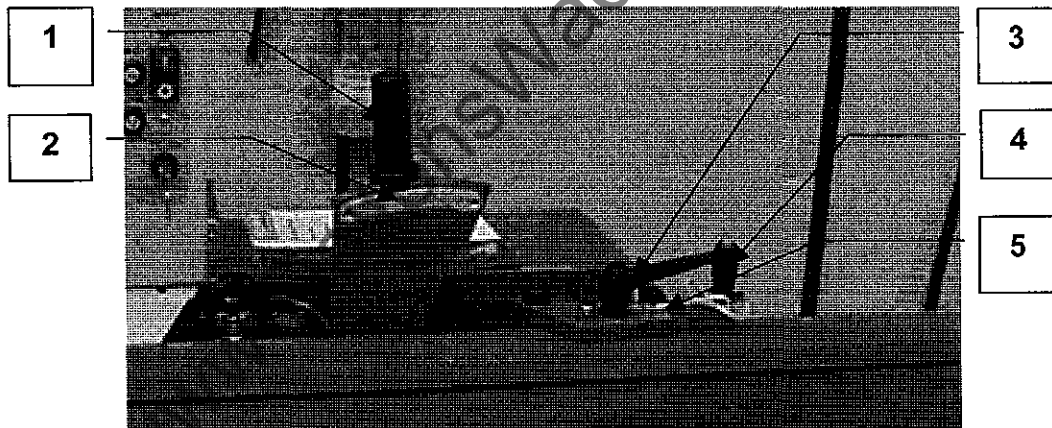

Figure 5.9
5.9 Infeed Table and Fence Adjustment (Figure 5.9)